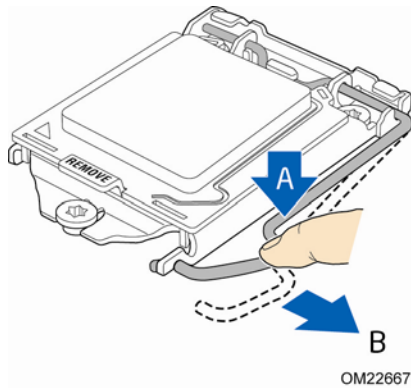

Figure 6. Unlatch the Socket Lever
2. Unlatch the processor socket lever by pushing it down and away from the socket (Figure 6, A, B).